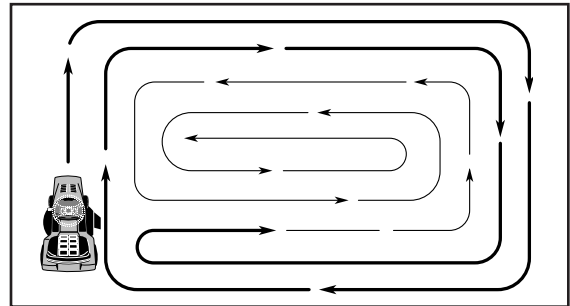

FIG. 22
- When mowing large areas, start by turning to the right so that clippings will discharge away from shrubs, fences, driveways, etc. After one or two rounds, mow in the opposite direction making left hand turns until finished (See Fig. 22).